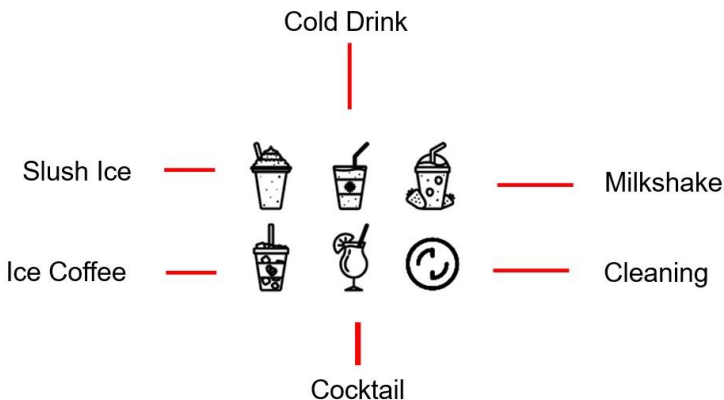

Figure 3
3. Plug in the power supply, touch the power switch icon and the machine will turn on, the default slush ice mode will be turned on for the first time, and the mode used last time will be automatically selected if it is not used for the first time (see Figure 3 for the mode description), the selected mode icon flashes, and the left or right toggle function to select the switchable mode. Toggle the thickness left and right to adjust the thickness of the slush ice, and the thickness indicator has a total of 5 bars, the more grids mean the lower the temperature of the Slush Ice after it is formed. Each toggle increases or decreases by one bar, the default 3 bars are used for the first time, and the last mode used will be automatically selected for non-first-time use. Touch the start/pause icon once, the machine will start working, only the selected mode icon flashes, at the same time, the child lock function is automatically enabled, the child lock icon indicator light is on, and the machine cannot be operated at this time. Long touch the child lock icon to turn off the child lock function, the indicator light at the child lock icon will be off, and the machine can be operated at this time. Touch the start / pause icon to pause or start the machine. Touch the power switch icon to power off.